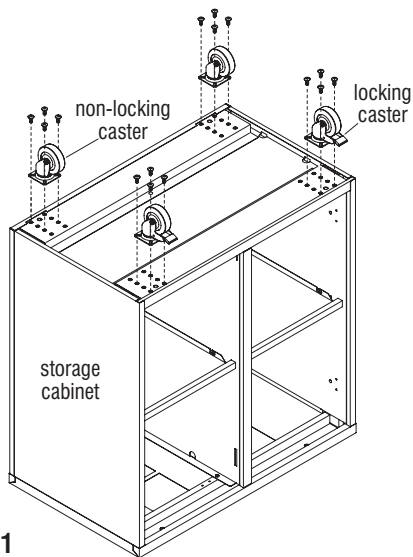

Figure 1
2. Carefully place the storage cabinet upside down on a soft, protective surface (Figure 1).
3. Locking casters shall be installed at the bottom of the cabinet along the front, storage side of the cabinet, and non-locking casters along the rear side of the cabinet. Position the appropriate caster over the mounting holes closest to the edge of the cabinet as illustrated in Details A & B. Secure each caster to the cabinet using four 1/4-20 x 5/8" Phillips screws per caster (Figure 1 & Details A & B).